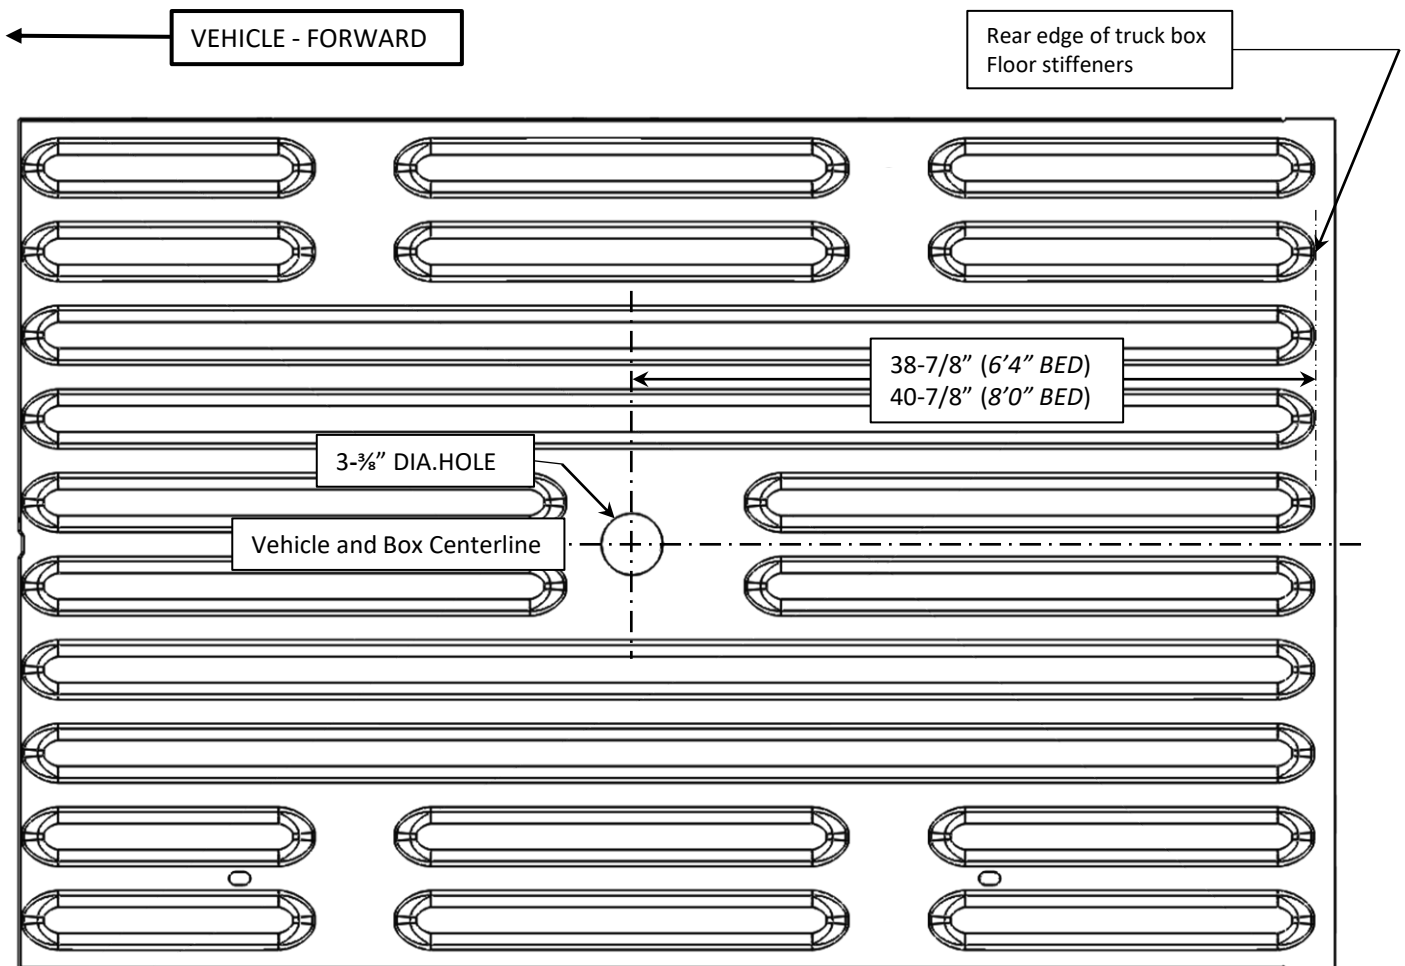

Figure: 3
1. Remove the spare tire and heat shield. And lower the exhaust by removing (3) rearmost exhaust hangers, creating more room under the truck for easy installation.
3. **Method-2:** From the inside of the box, mark the centerline of the box using chalk or some other temporary marking method. For a 6' 4" beds, measure and mark a spot 38 7/8" along the centerline forward to the rearmost edge of the truck box floor stiffeners. For 8' 0" beds, measure a spot 40 7/8" forward to the rearmost edge of the truck box floor stiffeners. (see figure 3.)